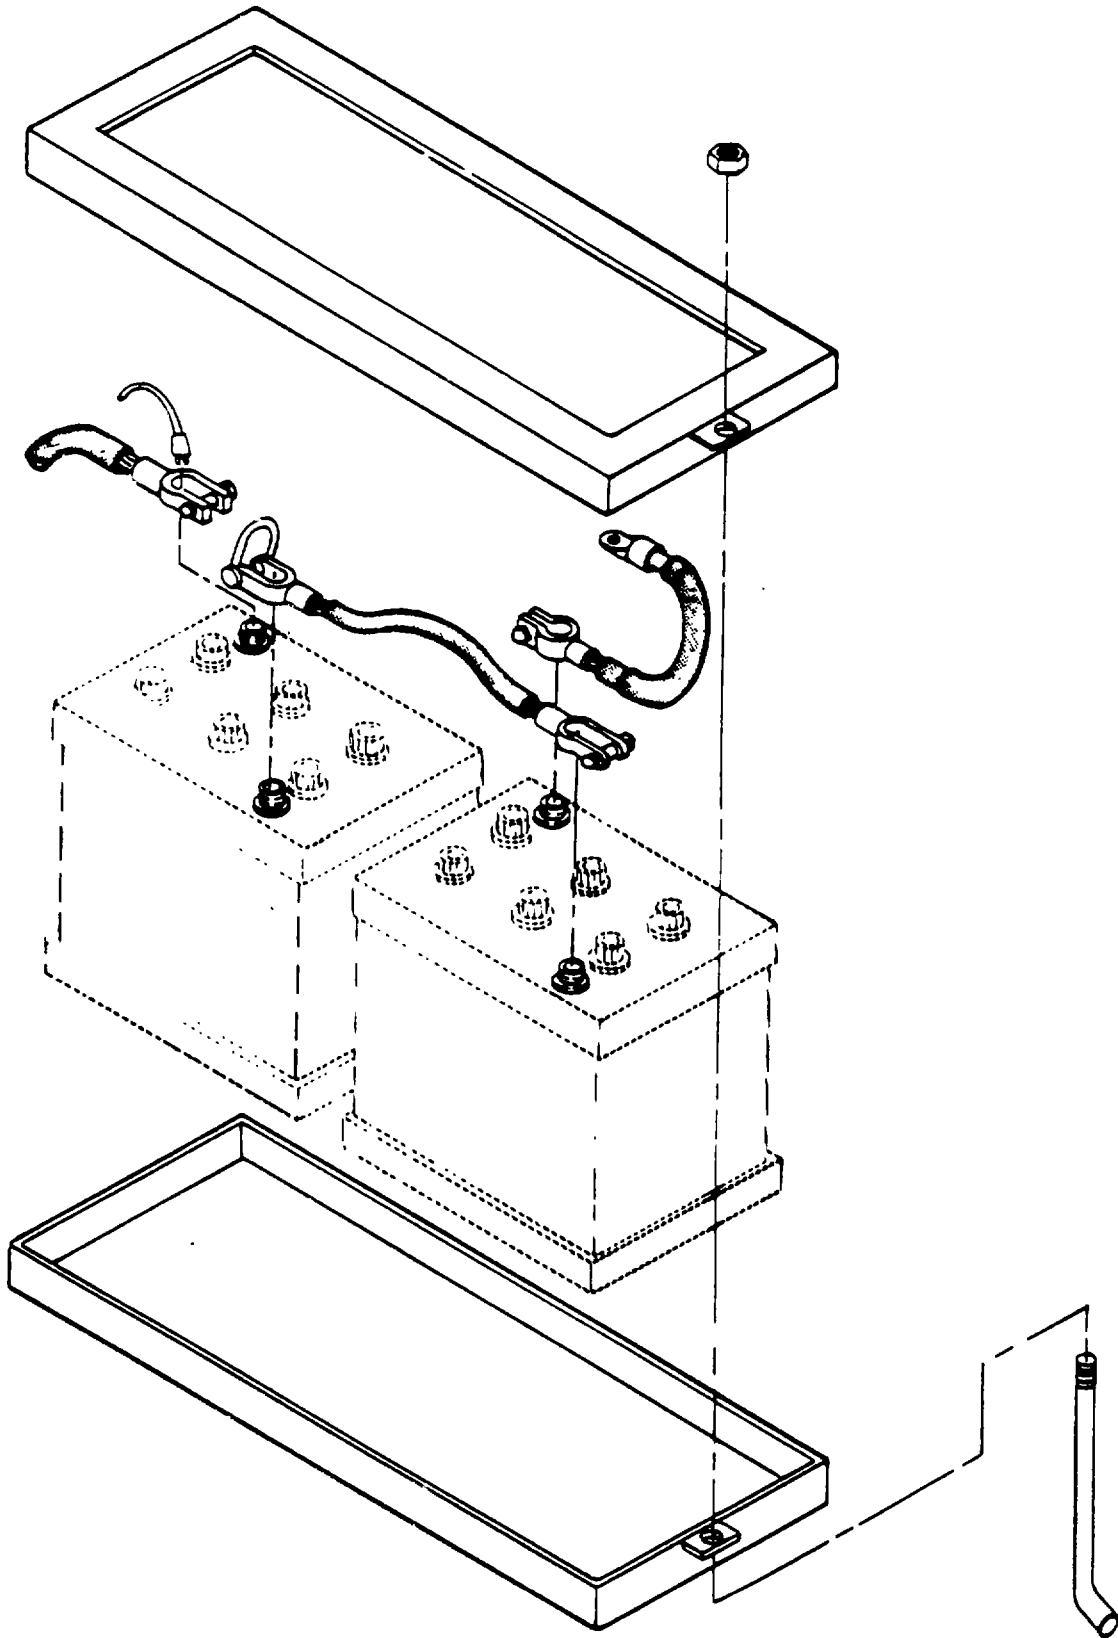

Figure 4-2. Battery Installation.
c. Battery. Install winch battery as shown in Figure 4-2.
- (1) Be sure battery carrier is clean and that battery rests level when installed.